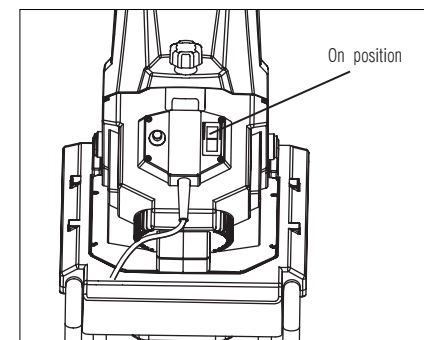

Fig. 5
2. To switch on the shredder, press the power On/Off switch to the ON position (Fig. 5).